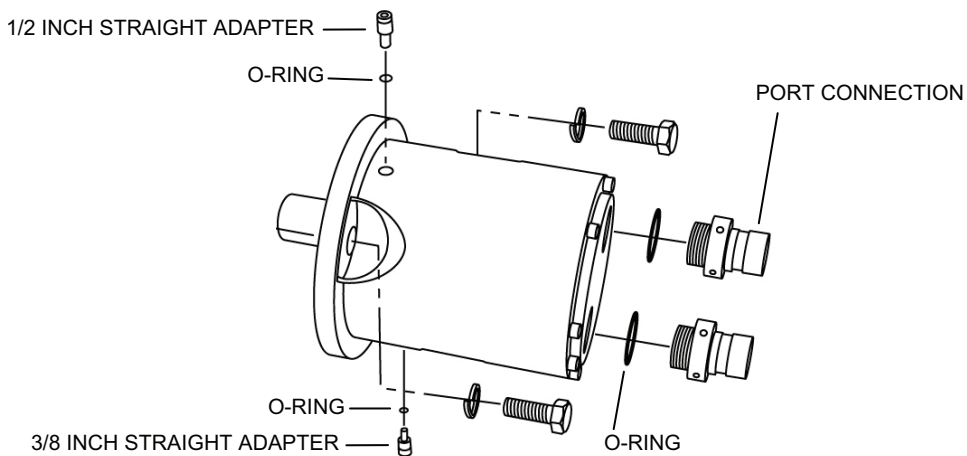

Figure 43. Installing Pump Straight Adapters and Port Connections.
- ff. Replace the O-ring from both port connections. Lightly lubricate new O-rings with glycerin before installing (see Figure 43).
- hh. Replace the O-ring on the two straight adapters. Lightly lubricate the new O-rings with glycerin before installing (see Figure 43).